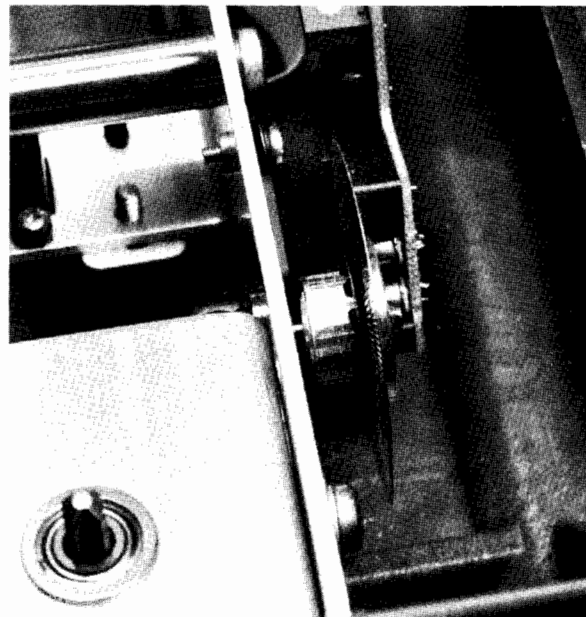

Figure 4-5. Encoder Assembly (2631G only)
- b. Turn the leadscrew into the print head until the encoder disc is against the print mechanism mounting bracket. See Figure 4-5.